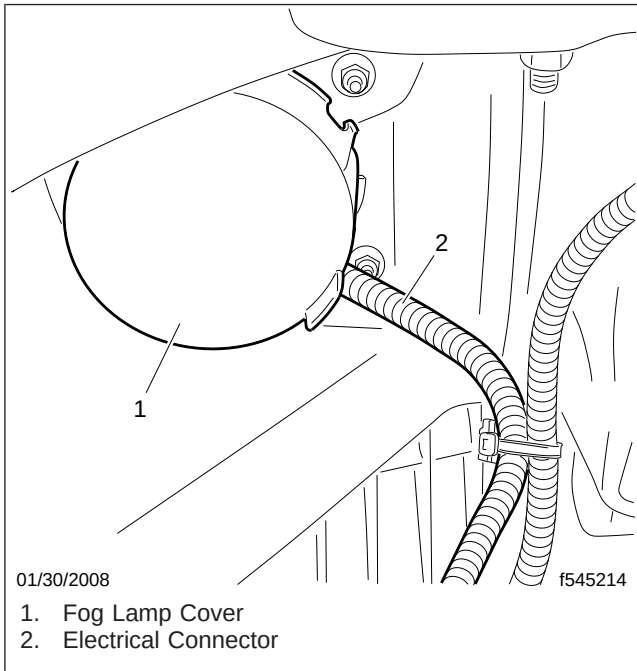

Fig. 4, Fog Lamp Cover
1. Remove the nut and washer that secures the cover to the back of the fog lamp, and remove the cover. See **Fig. 4**.